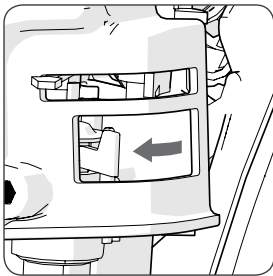

Fig 6
- Close the fuel tap. **(Fig. 6)**